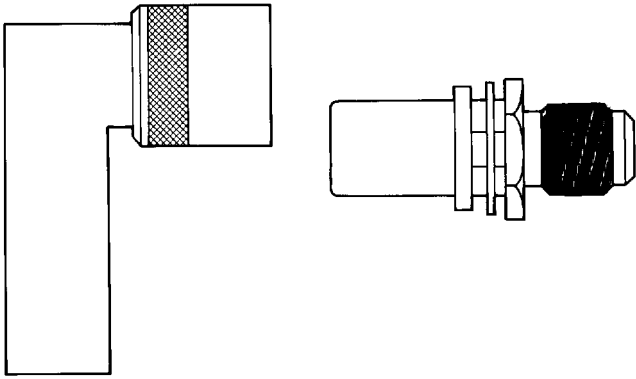

Figure 22. Typical QNC Series Connector
52. **Series QNC Connectors.** These connectors are similar to the QSC type both in size and operating characteristics (Figure 22).